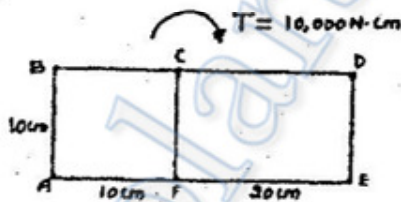

Fig. Q. 14 (a)
14. (a) Find the shear flow and angle twist for a length of two cell structure shown in fig. Q. 14 (a). The material used is aluminum = 70 GPa, Poisson ratio = 0.3, $t = 0.1 \text{ cm}$.